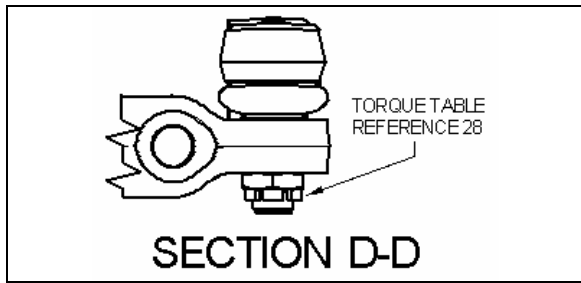

FIGURE 8: TORQUE SPECIFICATIONS
2. Afterwards, the pitman arm should be adjusted with reference mark aligned or to an angle of 2° in relation with the vertical axis (Fig. 8).